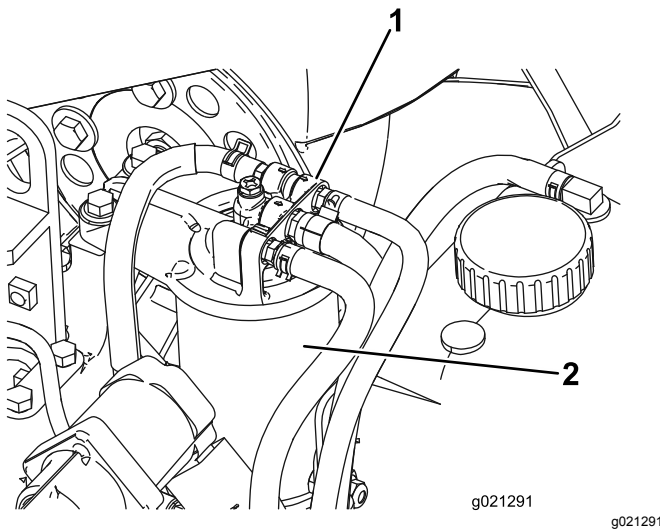

Figure 82
2. Clean the area around the fuel-filter head (Figure 82).
3. Remove the filter and clean the filter-head mounting surface (Figure 82).